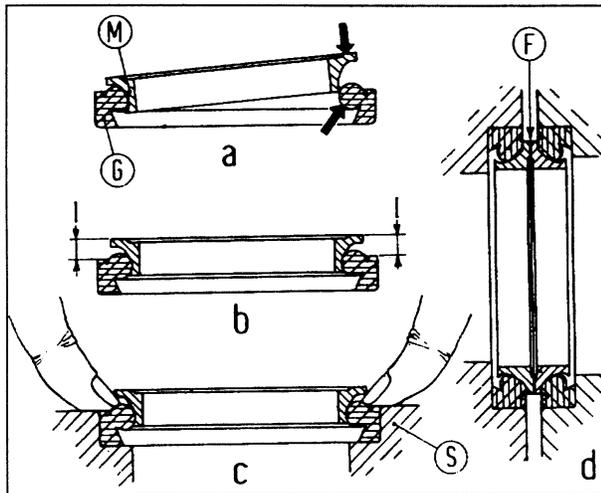

Fig. 1-2 Installing floating ring seals
Thoroughly inspect metal rings M (Fig.1-2) ensuring that their sealing surfaces are free from score marks, dents or signs of wear due to misalignment of flatness errors.
Both metal rings M, with rubber seals G (Fig. 1-2) should be renewed even if only one is found to be defective.
- couple each metal ring M to the associated rubber seal G as shown in detail a (Fig. 1-2), pushing as indicated by the arrows;
- ensure that each metal ring is correctly seated. Dimension l (detail b, Fig. 1-2), should be equal all round;
- place each seal assembly in position by manually pressing the rubber seal as shown in detail c (Fig. 1-2);
- before pairing the seal assemblies (see detail d, Fig. 1-2) clean sealing surface F using a lint-free cloth and smear a light film of thin oil on the contact surfaces.